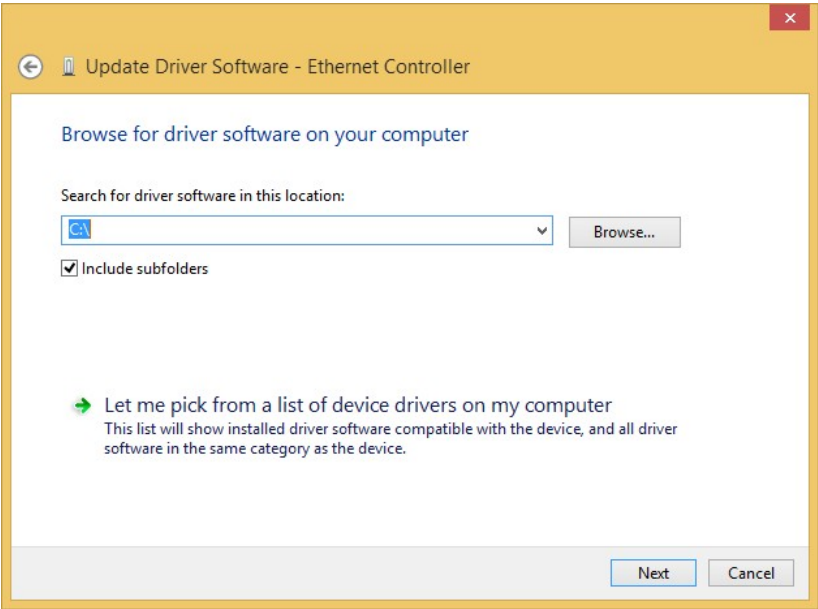

Figure 6-17: Locate Driver Files
- Step 9:** Click Browse to select “X:\2-LAN\Intel” directory in the **Locate File** window, where “X:\” is the system CD drive. (Figure 6-17).